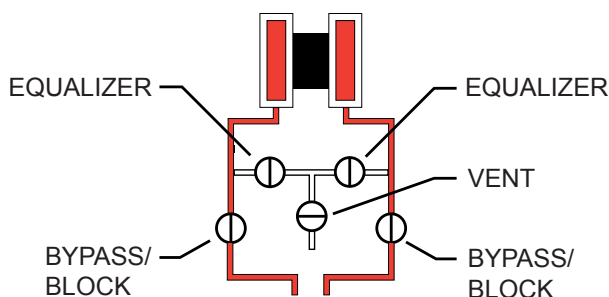

Figure 2.19—Valve positions for closing the vent valve
1. Close the vent valve (Figure 2.19).